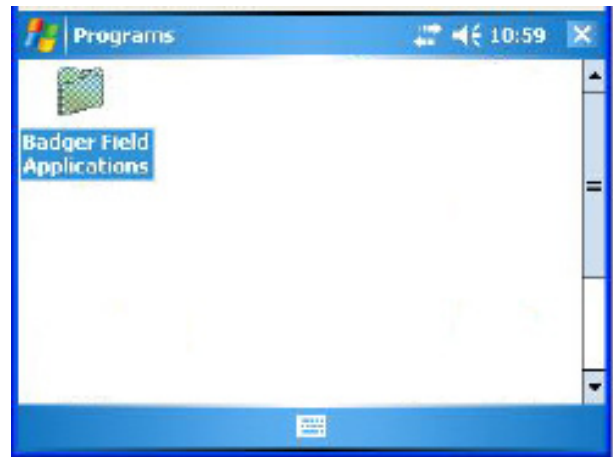

Figure 5: Badger Field Applications Folder
- Result: The Badger Field Applications folder opens and displays the ORION Reading System icon (Figure 5).*